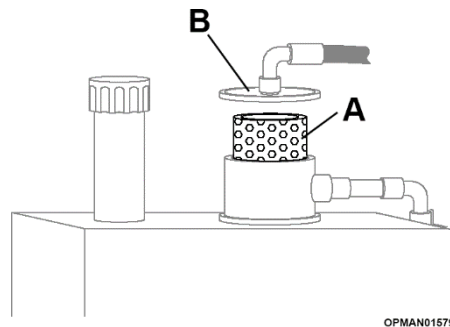

Figure 5.3
With reference to Figure 5.3, the hydraulic oil tank is fitted with a filter cartridge (A) which is designed to clean the fluid inside. The filter cleans the oil when it flows back to the tank. To check the filter, unscrew the screws, remove the lid (B) and pull it out.